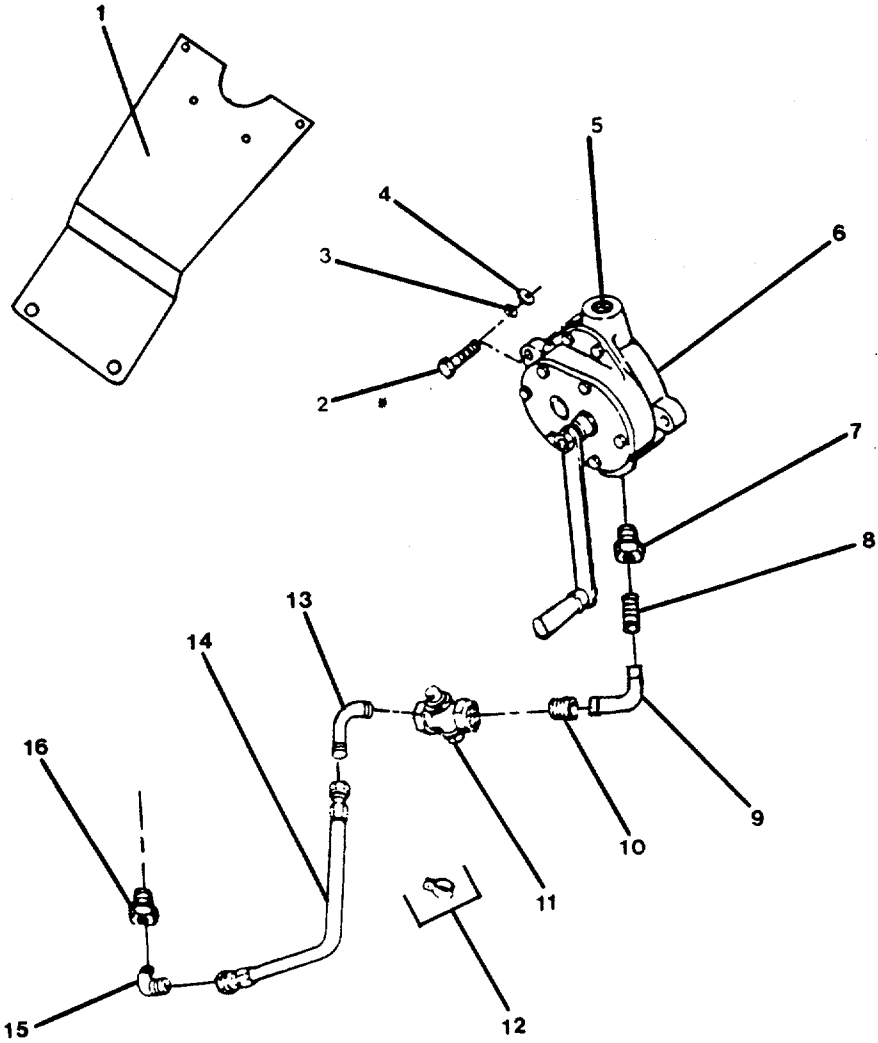

FIGURE 2-13. Sump Pump Group.
- (2) Install the cartridge (7) by hand, turning clockwise, until the gasket on the cartridge (7) contacts the gasket surface on the head (3). Then tighten another 1/2 to 3/4 turn. Repeat sequence for other cartridge.
**2-32. Replace/Repair Sump Pump Group. (Figure 2-13)**